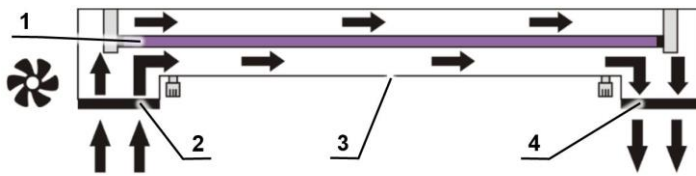

Figure 1. Recirculator scheme.
UV recirculator consists of an UV lamp (fig. 1/1), a fan and dust filters (fig. 1/2) organized in a plastic case. Operator working in a UV-Cleaner box with a switched on UV recirculator is not exposed to UV radiation. It allows continuous treatment of the airflow with UV light without interrupting working process. Air circulation at a short distance from the UV lamp combined with reflective surfaces in the air duct results in increased density of UV rays leading to higher efficiency of disinfection. UV recirculator generates 100 volumes of PCR cabinet per one hour of airflow exchange ensuring maximally aseptic conditions inside the cabinet.
**Note.** Open UV lamp operation can be checked with the visible light lamp switched off (switch **1** is OFF). Use the indicator in the centre of recirculator cover (fig. 1/3) to check operation of UV lamp inside the recirculator. If indicator lights from inside while switch **2** is ON, then the UV lamp is functioning.